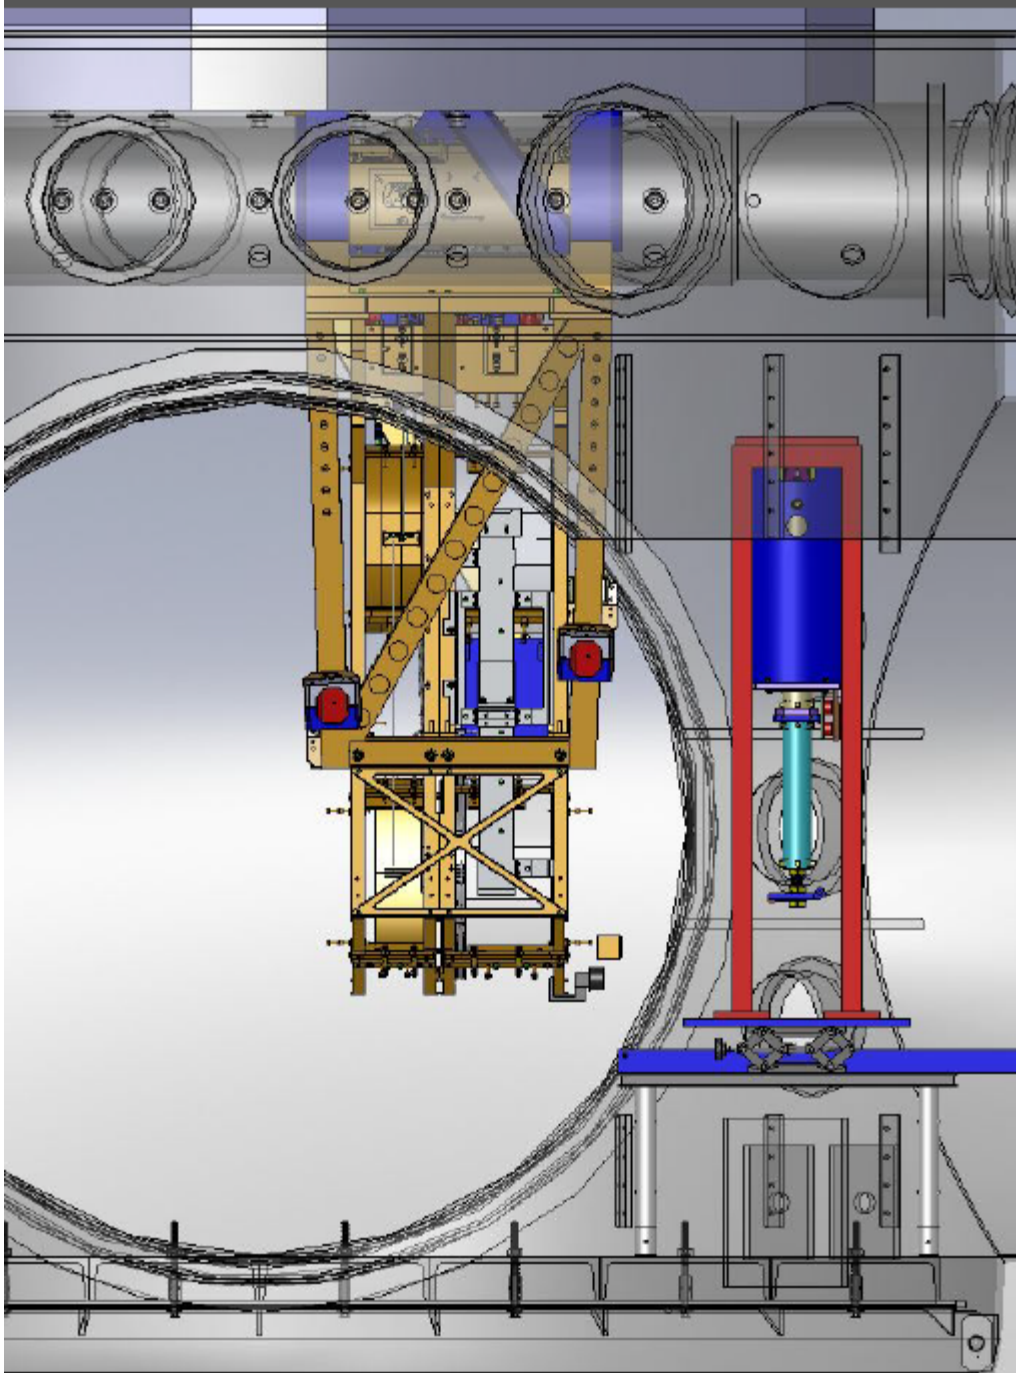

Figure 3: Lift Fixture for Lifting Suspension Assy to the ISI Stage 0 Prior to Clamping
- 2 The 49 lb assembled SUS is then placed on top of the lift fixture, as shown in Figure 3, and lifted into place against the ISI Stage 0 by adjusting the telescoping leg length and by adjusting the height of the expanding scissors lift mechanism.